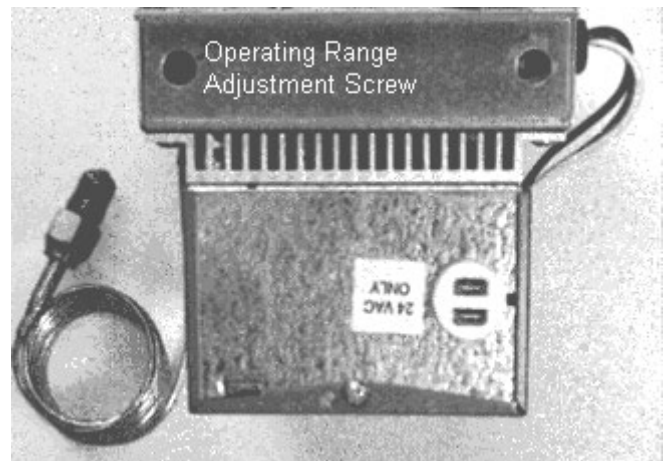

Figure 5: Operating Range Adjustment Screw Location
2. Access the operating range adjustment screw for the P66 pressure transducer through the opening in the upper left-hand corner of the P66 control base (Figure 5).